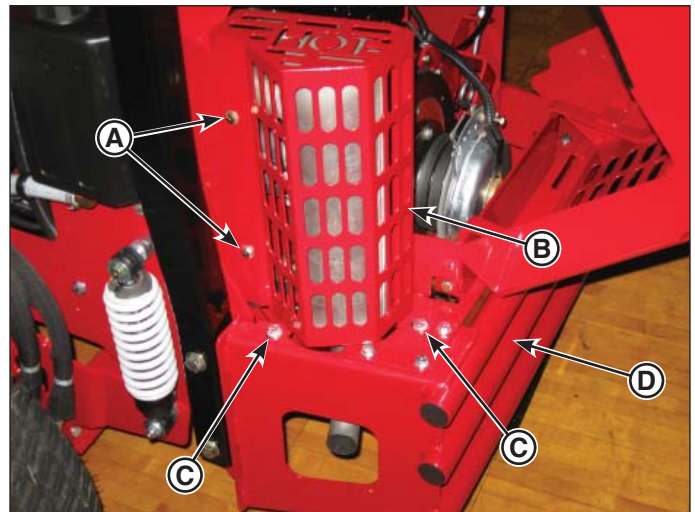

Figure 1. Removing the Muffler Guard
2. Open the hood by unclasp the two (2) rubber straps from the hood and tilting the hood open.
3. Remove the two (2) 1/4-20 X 3/4 bolts and 1/4 SAE washers (**A**, **Figure 1**) that secure the muffler guard (**B**) to the cowling.
4. Remove the two (2) 5/16-18 X 3/4 bolts, 5/16 gr. 9 washers and 5/16-18 nylon flange nuts (**C**) that secure the muffler bracket to the bumper (**D**).